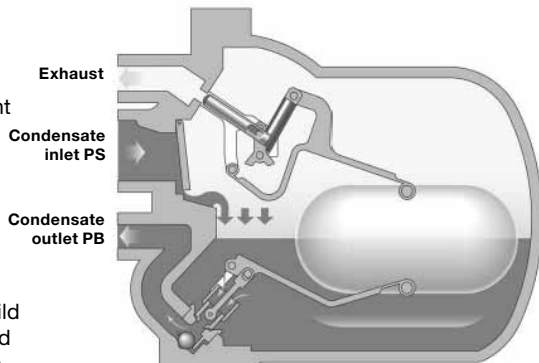

Fig. 4 APT14 shown
Step 1 (Figure 4)
The APT14, APT14HC and APT14SHC automatic pump trap operates on a positive displacement principle. Condensate enters the body through the inlet swing check valve causing the float to rise. The float is connected to the trap mechanism via a multi-link pivot. If the upstream system pressure PS is sufficient to overcome the backpressure PB (Figure 4), the build up of condensate will be discharged through the opening two stage trap mechanism.